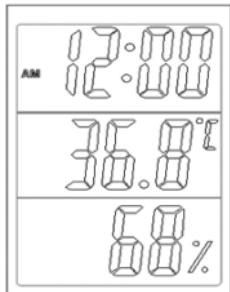

Fig. 1
2. The *minutes* will start to blink; use the **ADJ** button to increase value (see Fig. 1).